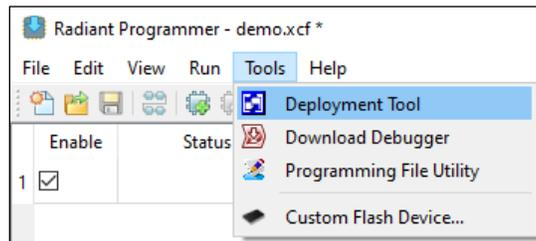

Figure 6.7. Deployment Tool
5. Launch the Deployment Tool by clicking **Tools > Deployment Tool**, as shown in Figure 6.7.